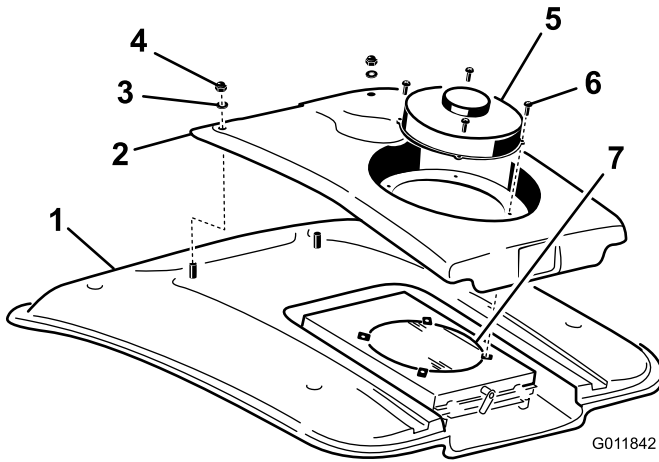

Figure 91
2. Remove the (4) screws securing the fan and the condenser cover to the fan mount (Figure 91).
4. Remove the two nuts and washers securing the front of the condenser cover to the cab roof (Figure 91).
8. Clean the air conditioning condenser thoroughly with compressed air (Figure 91).